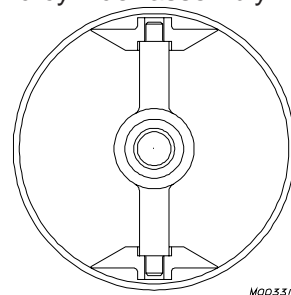

Figure 7-3 Scraper Blade Installation
3. Place the scraper blades on the beater shaft, making sure the blades are installed properly (see figure 7-3).